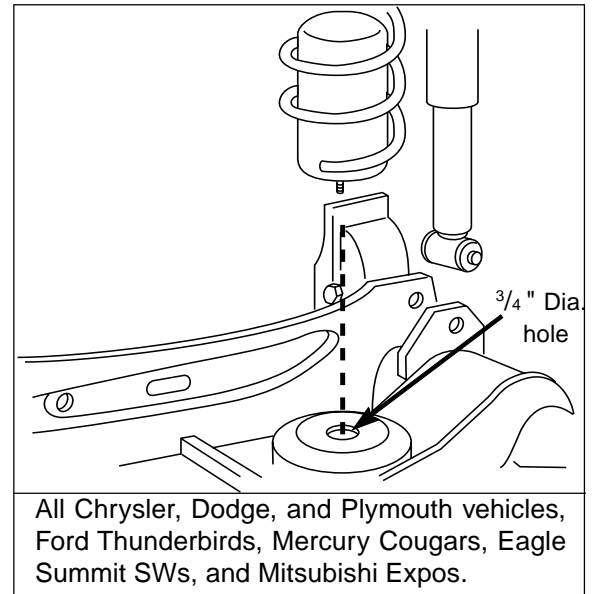

Figure 1
Multiple Applications – See special notes and Figures 1, 2 and 3 for your particular vehicle.
- (3) Stick the template on the underside of the lower spring seat with a dab of grease.
- (4) Centerpunch and drill  $\frac{3}{4}$ " diameter hole. Remove all burrs and sharp edges (Figure 1).
- (6) Insert air cylinder into coil spring with stem at bottom. Push the cylinder up within the coil by hand or with a blunt instrument such as a spoon-type tire iron.
- (7) When the cylinder is completely within the coil, remove the cap and allow the cylinder to assume its "as molded" shape. For Thunderbirds or Cougars skip to step (9), otherwise continue on to step (8)
- (8) For Chrysler, Dodge, or Plymouth: With the air cylinder stem down (Figure 1) install coil springs into spring seats and rotate to proper location. Attach lower shock absorber attaching bolts. Torque to 25 ft-lbs.
- (9) Continue with air line installation on pages 2-4.
- (1) Increase the diameter of the hole in the lower spring seat to  $\frac{3}{4}$ " diameter. Remove all burrs and sharp edges.
- (2) Insert air cylinder into coil spring with barbed stem towards the bottom. Push the cylinder up within the coil by hand or with a blunt instrument such as a spoon-type tire iron (Figure 1).
- (3) When the cylinder is completely with in the coil, remove the cap and allow the cylinder to assume its "as molded" shape.
- (4) Continue with air line installation on pages 2–4.